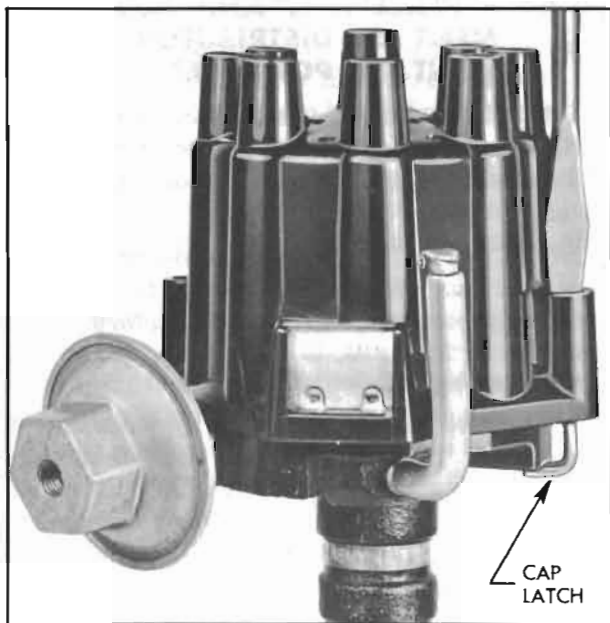

Figure 10-40—Removing Distributor Cap
1. Remove distributor cap by inserting a screwdriver in upper slotted end of cap retainers, press down and turn 90° in either direction. See Figure 10-40. Push distributor cap aside and remove rotor. Disconnect the condenser and primary leads from their terminal by loosening the retaining screw. Remove condenser screw, lockwasher, condenser and bracket.